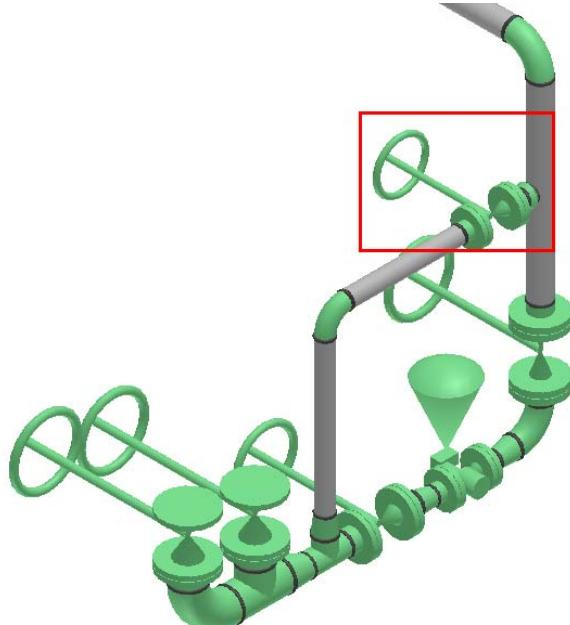

Figure 97: Placed Gate Valve
63. Click **Finish** on the **Insert Component** ribbon to place the gate valve, as shown in Figure 97.